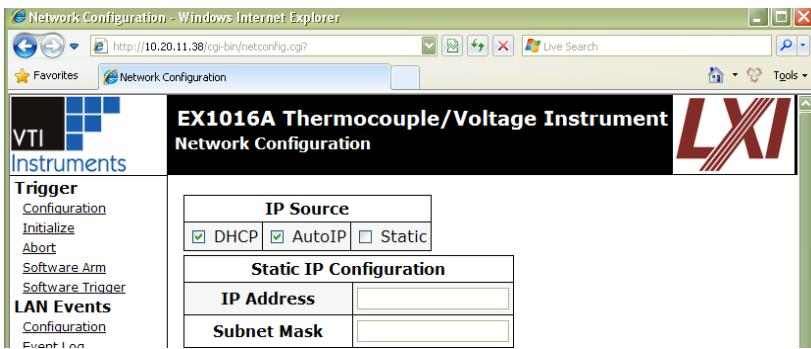

FIGURE 2-7: EX10xxA SET TO USE AUTO IP
- 5) Select **DHCP** and **AutoIP** in the **IP Address Source** field and ensure that **Static IP** is not selected. Figure 2-7 shows the proper configuration. Click the **Submit** button to save all changes.